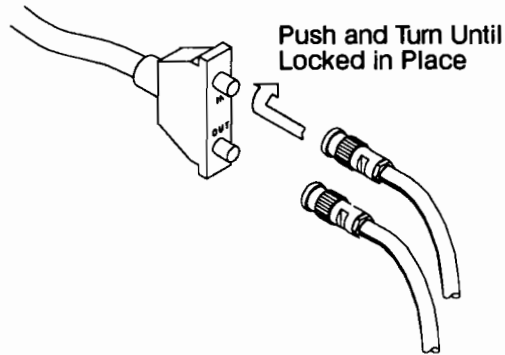

Figure 8-12. Connecting Cables to the BNC Connector
8. Connect the IN cable to the BNC connector marked IN and connect the OUT cable to the OUT connector as shown in Figure 8-12.